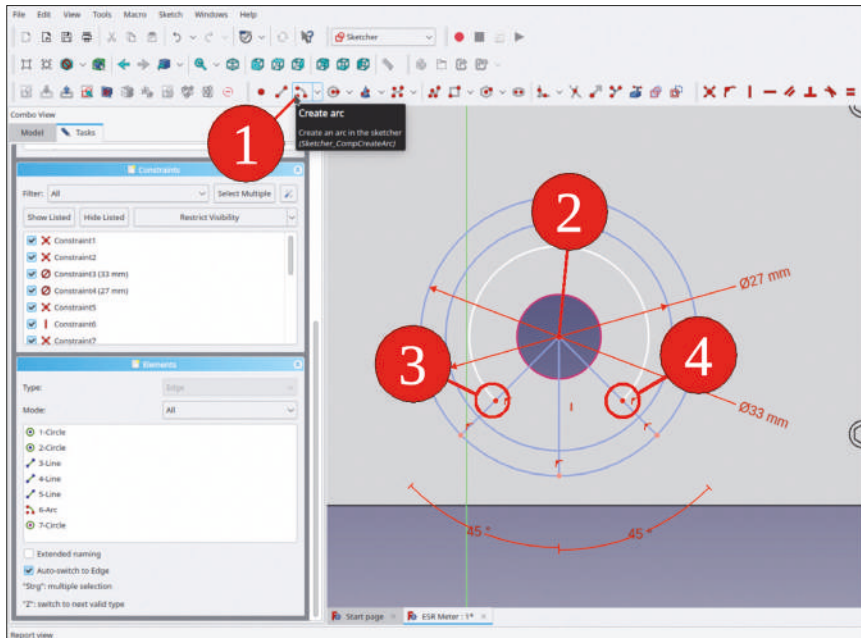

Figure 8-22
8. Click on the 'Create arc' tool button and draw an arc that is centered about the circles. Place an endpoint onto each of the inclined lines. The diameter of the arc can be arbitrary (Figure 8-22).